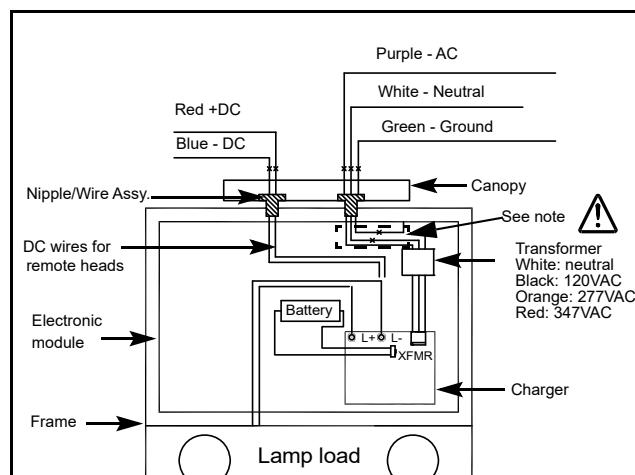

Figure 7
- 2. Electrical connections:** Using the sealed AC nipple/wire assembly (3 wires), connect one end to the transformer leads inside the enclosure and the other end to AC line voltage inside the junction box. Connect the white lead to neutral and the green lead to ground. Connect the purple lead to AC line voltage and to appropriate transformer lead (See fig. 7 for color code).
For models with DC remote capacity, the sealed DC nipple/wire assembly (2 wires) will also need to be installed. One end connects to the AD charger terminal block inside the enclosure and the other end to DC output inside the junction box. Connect the red lead to positive, and the blue lead to the negative of the remote DC output (See fig. 7).
- b. Soutenir la région autour des trous défonçables à l'aide de deux blocs de bois. Frapper les trous défonçables d'un coup sec à l'aide de deux blocs de bois. Enlever le module (voir fig. 7 pour fig. T1).